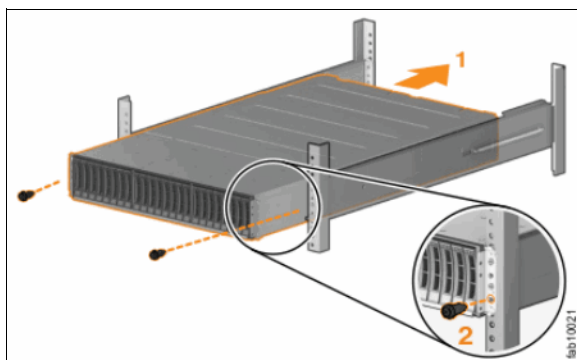
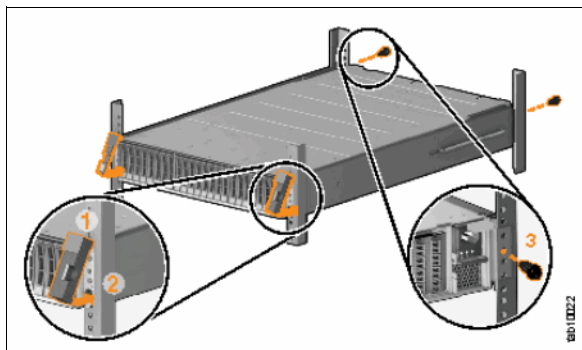

Figure 6-35 Inserting the expansion enclosure in the rack
Figure 6-36 Securing the expansion enclosure to the rack
3. Slide the expansion enclosure into the rack until it is fully inserted. See Figure 6-35.
4. Secure the enclosure with screws in the rack mounting screw holes. See Figure 6-35 and Figure 6-36.